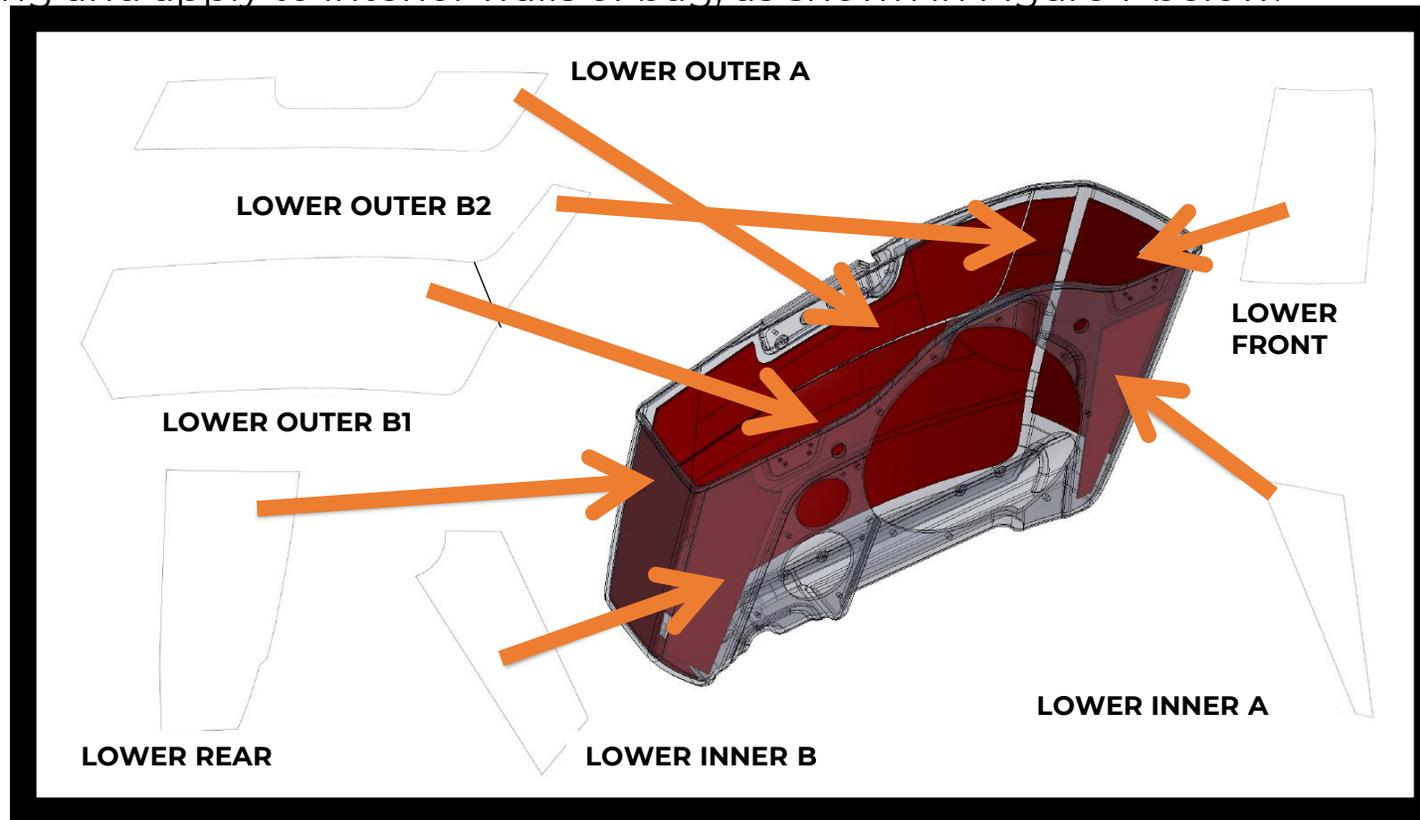

Figure 7
- Identify the Left and Right side damping sheets and correct location per labelling on packets. Remove the paper backing and apply to interior walls of bag, as shown in Figure 7 below.